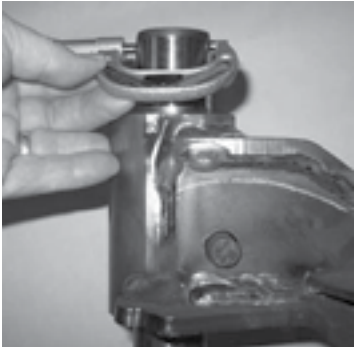

Figure 23.
2. Inspect the kingpin for wear or damage. Use a micrometer and measure the upper and lower kingpin in two locations. Positions must be 90 degrees (perpendicular) from each other. (See Figures 23 through 26) If the kingpin diameter is less than 1.802", kingpin replacement may be necessary. Contact the Hendrickson Customer Service Department at 800-660-2843.